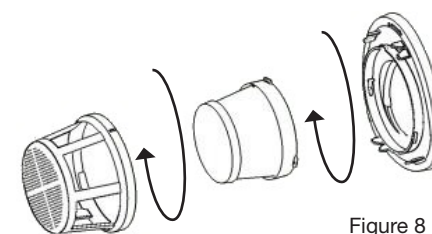

Figure 8
4. Turn the pre-filter anticlockwise to separate it from the filter holder, then do the same with the filter to separate it from the filter holder (Fig. 8). Take care not to damage the filter inside.